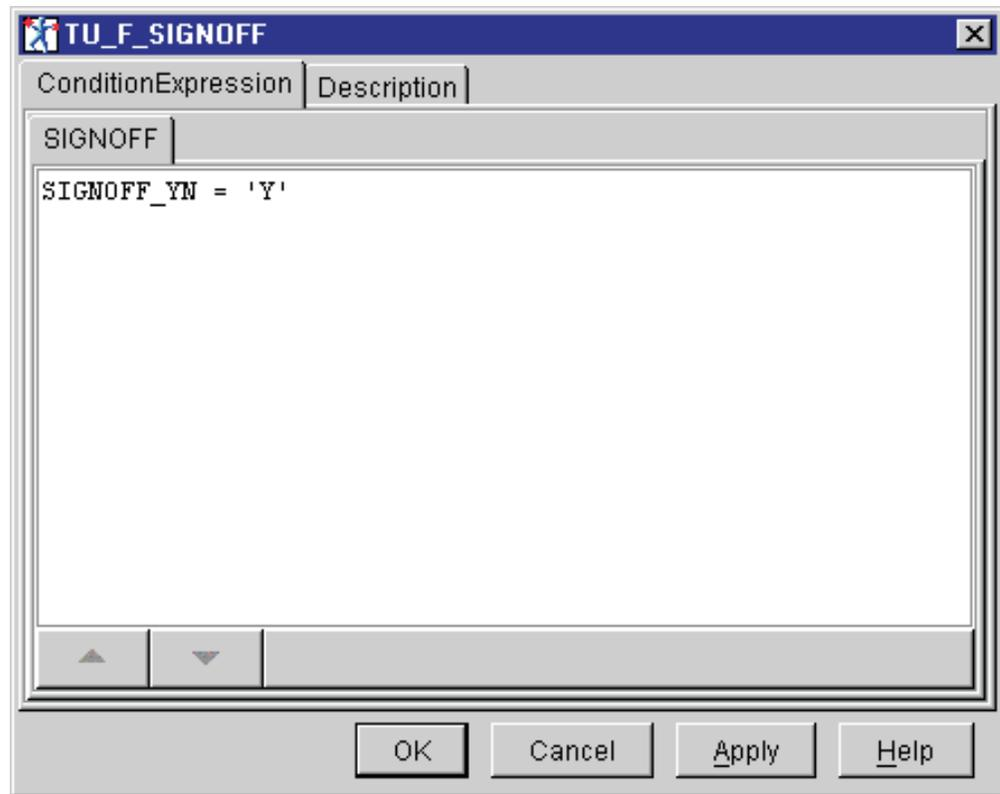

Figure 163. Code for the SIGNOFF Terminal
- iv. You should add the code shown in Figure 163 on page 207 for the SIGNOFF terminal test condition. The letter 'Y' for the SIGNOFF\_YN field indicates that signoff should occur.